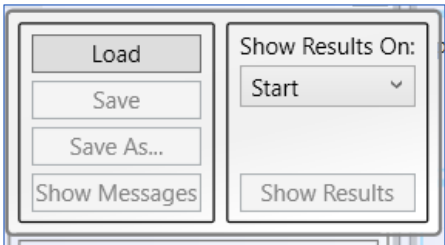

Figure 247: Measurement Hamburger Menu
1. Click on the Hamburger icon in the upper left corner of the Measurement screen to access the Measurement Hamburger menu, as shown in Figure 247.